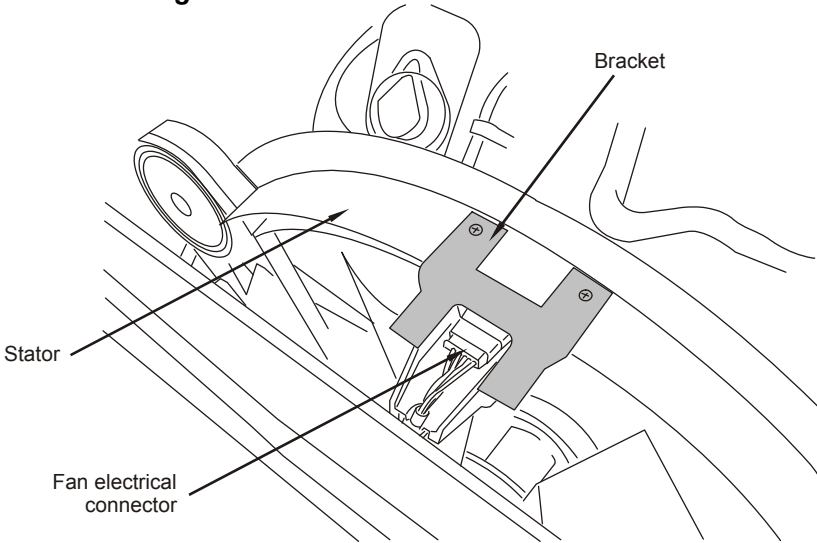

Figure 4.9
- Slide the support bracket onto the stator so that the two long tabs with the drilled holes are on top and push it into place until the ends of the tabs contact the lip on the stator (Figure 4.9).